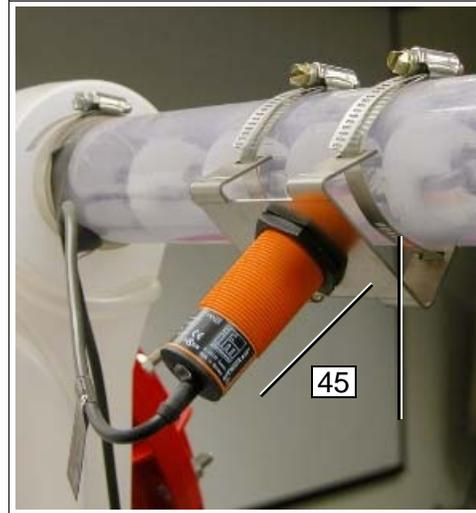

Figure 16D
1. Mount Proximity Switch to a CLEAR section of tubing located after the last drop tube and before the drive unit (See Figure 16D).
2. Attach the Proximity Switch Mounting Bracket to the clear tubing using the hose clamps provided. Adjust the bracket so the proximity switch is mounted at a 45° angle (See Figure 16D).